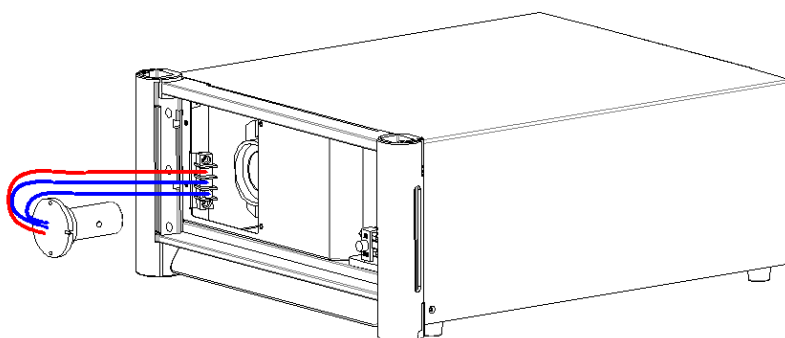

Fig. 5-3 Pull the Lamp out
- 3) Unscrew the 3 lamp connecting terminals, as shown in Fig. 5-3. Then loosen the 2 deuterium lamp mounting screws, and pull the lamp out of the lamp housing.